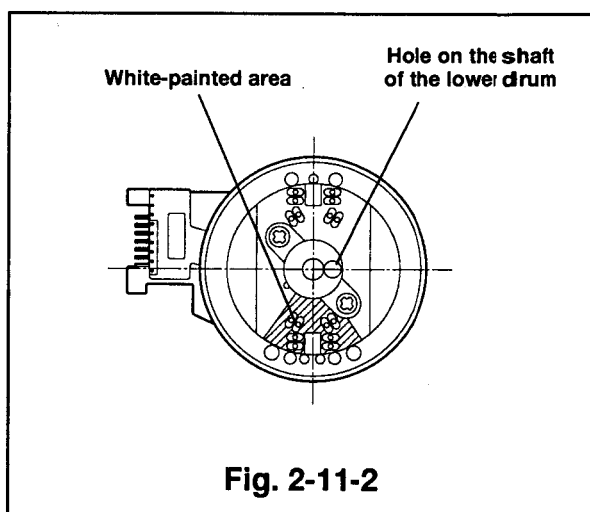

Fig. 2-11-2
- ① Attach the rotary transformer and the drum motor so that the terminals of both face in the same direction, and secure them with the screws(Ⓒ,Ⓓ and Ⓔ). Secure the rotor case with the screws(Ⓐ and Ⓑ).
- ② Position the white painted (shaded) area of the upper drum so that the area is -90° apart from the hole of the lower drum shaft. Insert the upper drum. Take care not to touch the head terminals. [Fig. 2-11-2]
- ③ Secure the upper drum with the two fastening screws. (Tighten the screws alternately.)
- ④ Solder the terminals of each head.